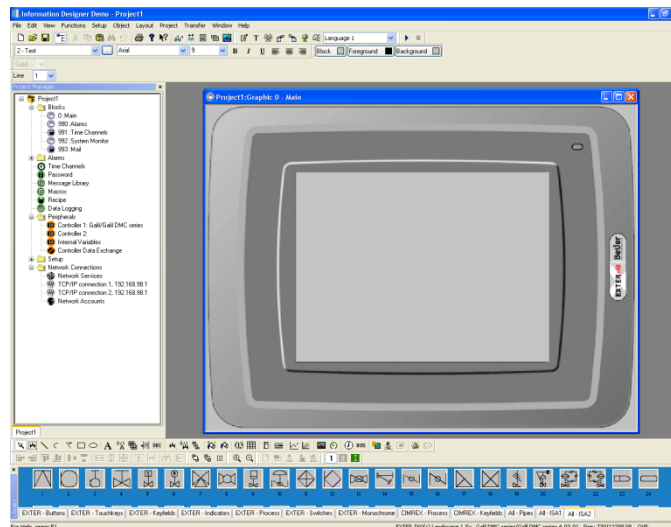

Figure 2: A new project opened in Information Designer
8. Once complete press “Ok.” A new blank block (or screen) will appear--this is what the user will see when they are operating the HMI device. This is shown in Figure 2 below: